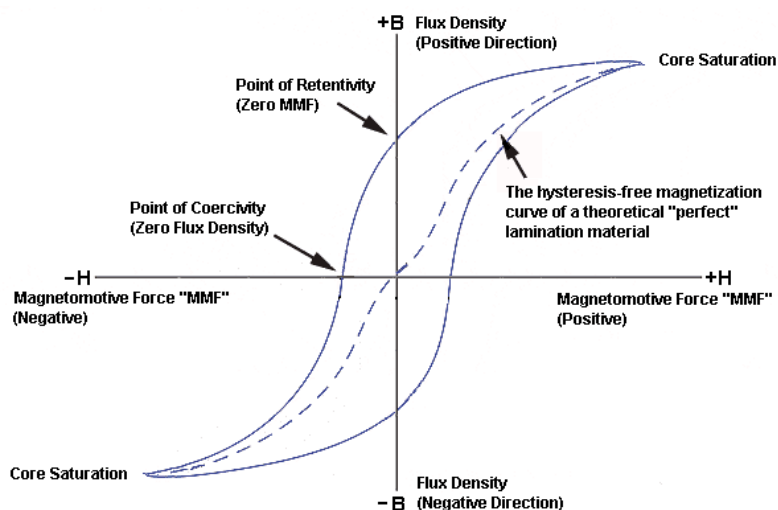

Fig 4 A typical hysteresis loop, or "B-H loop"
Figure 4 depicts a hysteresis loop and it's parts. Examining it will help you to better understand the rest of this section, and how it applies to our OPT.
After full negative-direction magnetization has occurred, the cycle reverses again and begins its positive magnetization swing. However, the point of coercivity is different on the return cycle, because it is skewed by what is now a different retentivity polarity. Because the magnetic polarity of the point of retentivity is opposite on each half-cycle, so is the point of coercivity. Because of this, the magnetization curve is not a uniform, linear line in both directions. This impossibility to precisely track a linear remagnetization curve when the alternating mmf is applied is the property called *hysteresis*. Hysteresis causes the magnetization curve to trace out an S shaped loop, which is where the *hysteresis loop* in Figure 4 gets its name. The left-to-right width of the hysteresis loop at the center point or *waist* is the degree of hysteresis present. It is also sometimes called the *B-H loop*, where B is the flux density and H is the magnetomotive force, or mmf. All ferromagnetic materials exhibit a certain degree of hysteresis, as the relationship between B and H is never perfectly linear. The hysteresis loop can be simply thought of as a representation of the magnetic flux density (B) as a function of the mmf (H). The more magnetically linear the material is, the narrower the waist of the hysteresis loop.